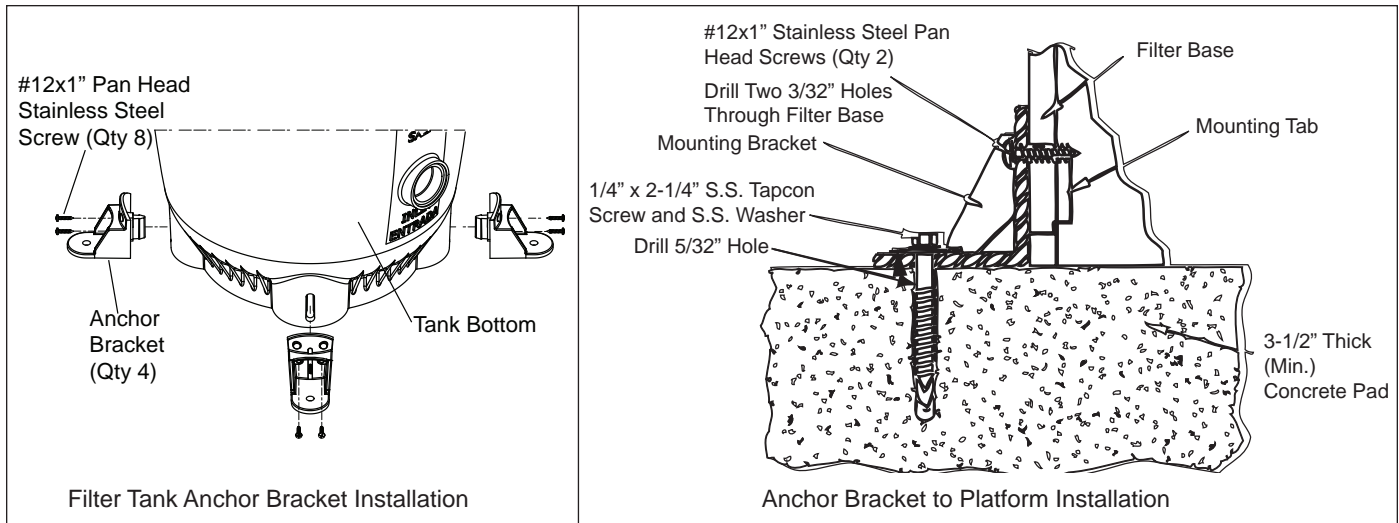

Figure 3. Anchor Bracket Installation
Install the Tapcon® screws and washers through each of the four (4) anchor brackets to secure the filter to the equipment pad. See Figure 3. **Do not over-torque the screws.**